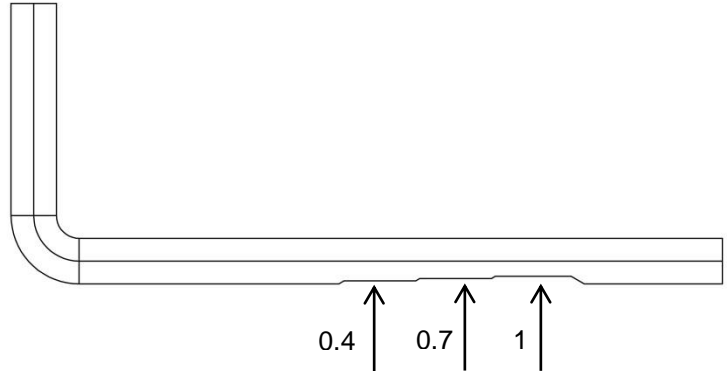

Fig. 10: Allen wrench with notches
- > Loosen the knife screw (1 - Fig.10) on the milling head (3 - Fig.10) with a 6 mm Allen key.
- > Replace the circular knives (2 - Fig.10) or turn the circular knives by 180°.